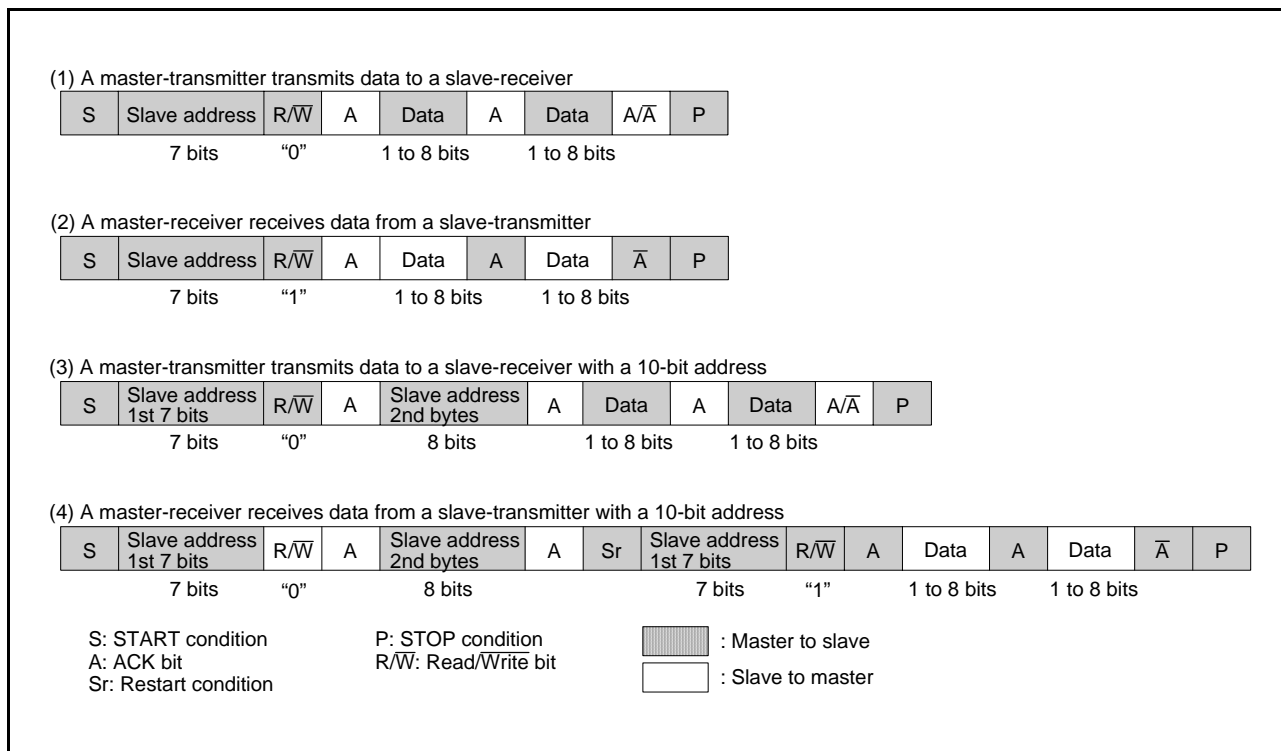

Fig. 73 Address data communication format
To adapt the 7-bit addressing format, set the 10BIT SAD bit of the I²C control register (S1D: address 0014₁₆) to “0”. The first 7-bit address data transmitted from the master is compared with the high-order 7-bit slave address stored in the I²C slave address register. At the time of this comparison, address comparison of the RWB bit of the I²C slave address register is not performed. For the data transmission format when the 7-bit addressing format is selected, refer to Figure 73, (1) and (2).
When the first-byte address data agree with the slave address, the AAS bit of the I²C status register (S1: address 0013₁₆) is set to “1”. After the second-byte address data is stored into the I²C data shift register (S0: address 0011₁₆), perform an address comparison between the second-byte data and the slave address by software. When the address data of the 2 bytes agree with the slave address, set the RWB bit of the I²C slave address register to “1” by software. This processing can make the 7-bit slave address and R/W data agree, which are received after a RESTART condition is detected, with the value of the I²C slave address register. For the data transmission format when the 10-bit addressing format is selected, refer to Figure 73, (3) and (4)